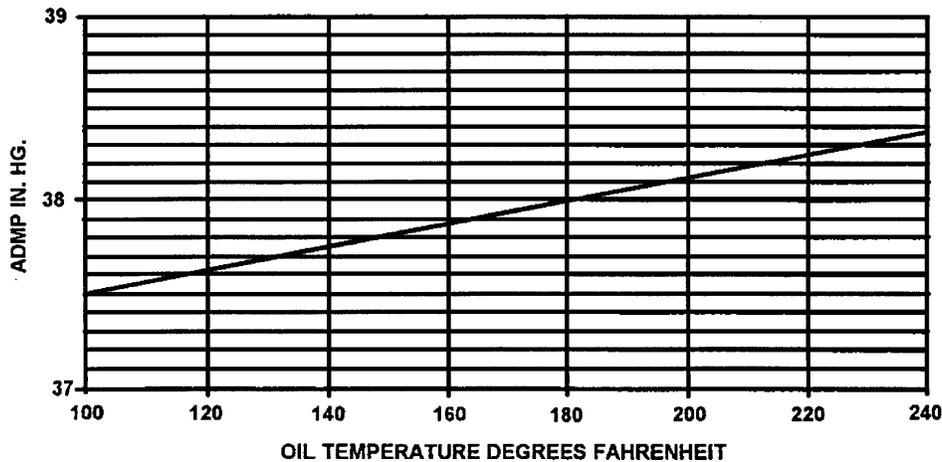

FIGURE 20-5. ADMP VS. OIL TEMPERATURE
2. Using a handheld digital tachometer, adjust the propeller controls to 2600 rpm. With the throttle in the full forward position, set the intake manifold pressure to the value shown in Figure 20-5 (\pm 0.5 In. Hg.) by adjusting the screw on the top of the controller.